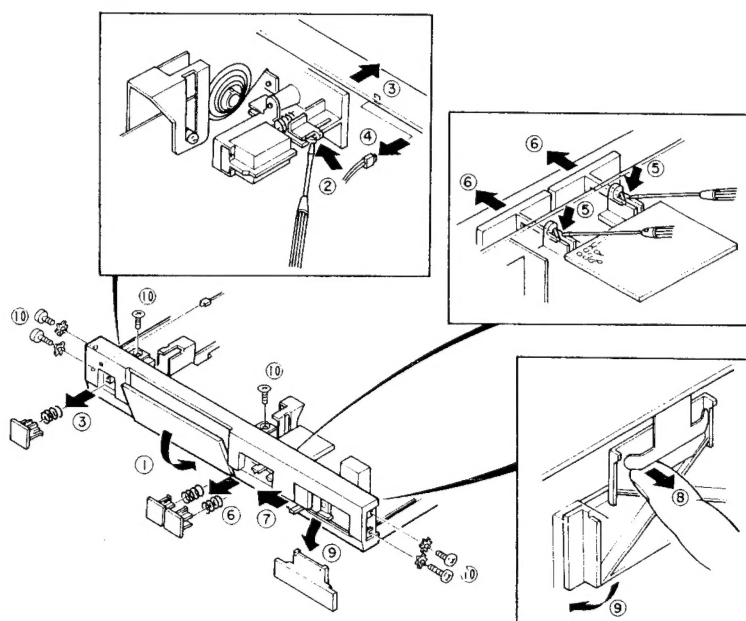

Fig. 3 How to remove knobs and panel (1)
2. Push down the pocket door till it locks underside the unit. (Fig. 3-①)
3. Push the pawl of the power switch knob into the groove of the escutcheon. (Fig. 3-②)
4. Pull out the power switch knob. (Fig. 3-③)
5. Remove the LED (Fig. 3-④)
6. Remove the TAPE and PHONO/OTHERS knobs. (Fig. 3-⑤, ⑥)
7. Slide the PRESET LEVEL knob to 0 position (Minimum position). (Fig. 3-⑦)
8. Lightly lift the ends of the copper plate retaining FADER knob alternately and drag the knob out little by little in the direction of the arrow. The copper plate may come off when center of the plate is lifted. (Fig. 3-⑧, ⑨)
9. Remove the screws from the front panel (Fig. 3-⑩.); Top: 2 screws, Both side: 2 screws each.